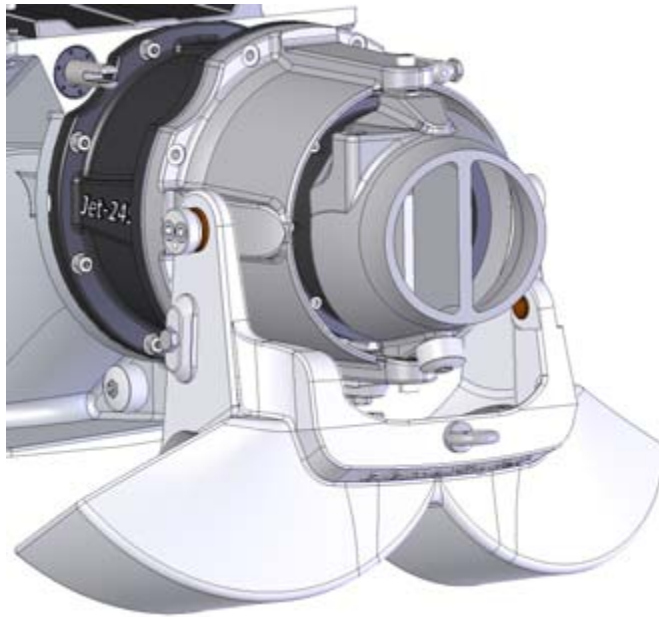

Figure 93. Removing the stator as a complete unit
4. Pull the stator, the steering nozzle and the reversing deflector out as a single assembly (figure 93).